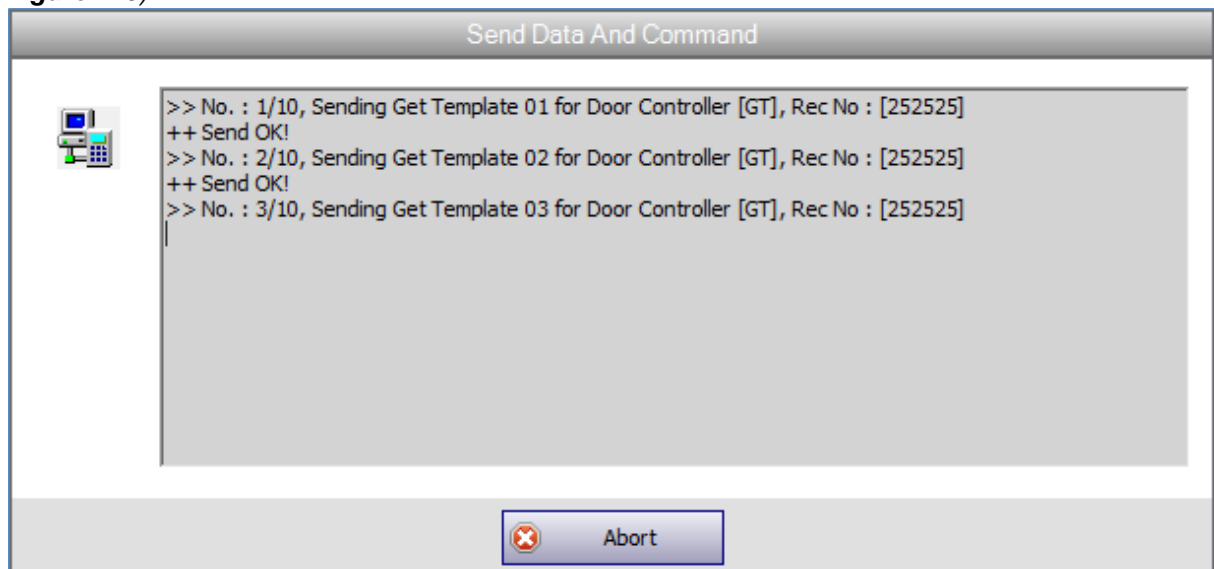

Figure 249 - Send Get Template
2. Click on **Get Template** button. Send Data and Command window will be shown (Refer **Figure 249**).